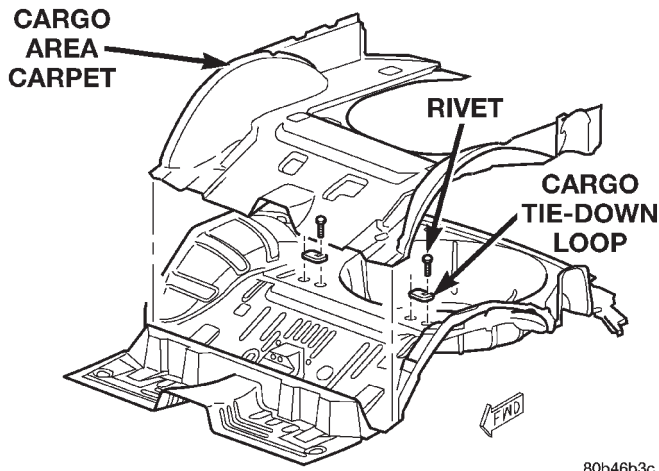

Fig. 63 Cargo Area Carpet
- (1) Lift tailgate.
- (2) Fold rear seat cushions forward.
- (3) Remove rear seat backs, shoulder belts and buckles.
- (4) Remove the retractable security cargo cover assembly.
- (5) Remove the spare tire cover.
- (6) Remove the rear cargo tie down footman loops. The side mounted footman loops are retained by screws. The floor footman loops are riveted (Fig. 63).
- (7) Remove the "C" pillar trim and CD changer, if equipped.
- (8) Remove the Infinity amp, if equipped.
- (9) Lift the carpet.